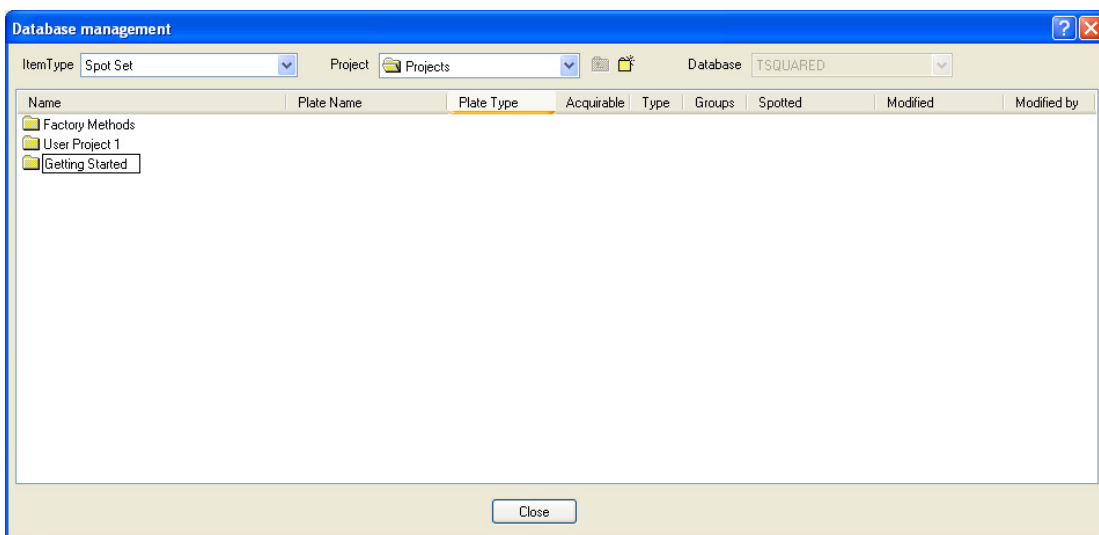

Figure 3-1 Database Management Dialog Box
1. Select **File > Database Management**. The Database Management dialog box opens (Figure 3-1).